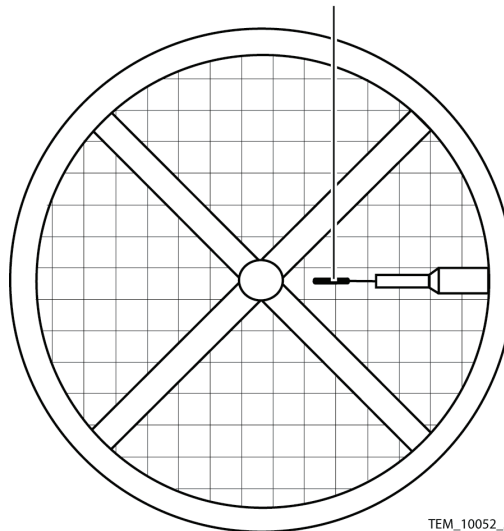

Figure 59. Thermistor Position Within Duct Adapter
12. Carefully reinsert the thermistor into the duct adapter assembly. See Figure 59, item 1.